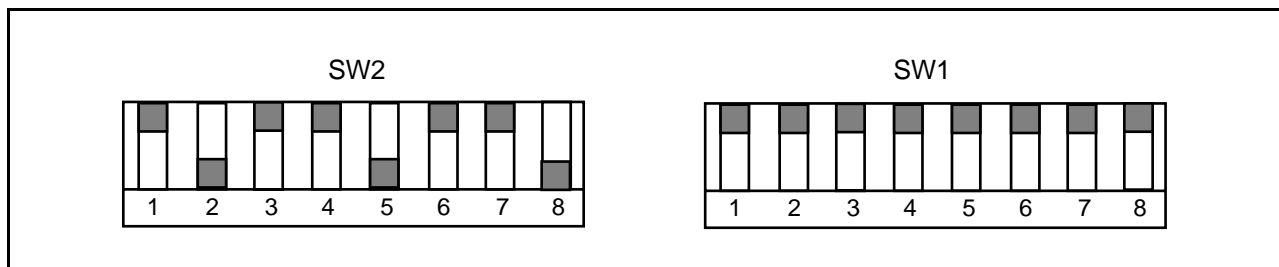

Figure 4.1 DIP Switch Setting at Shipment
2. Before executing the diagnostic program, make sure the **DIP** switches have the same settings as at shipment (refer to figure 4.1).